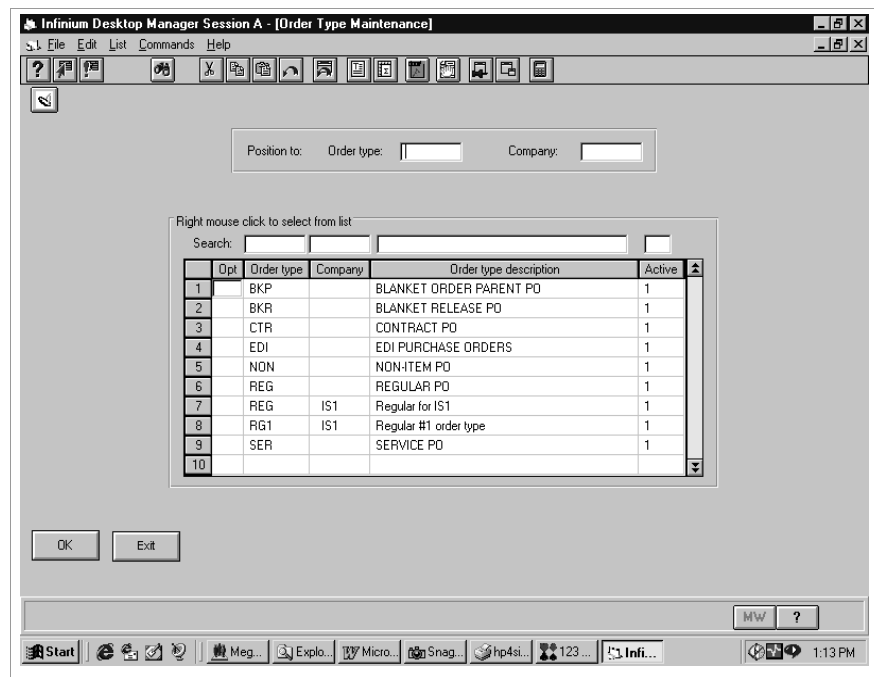

Figure 4-14: Order Type Maintenance screen
- 2 Select *Work with purchase type* [WWPT]. The system displays the screen shown in Figure 4-14.